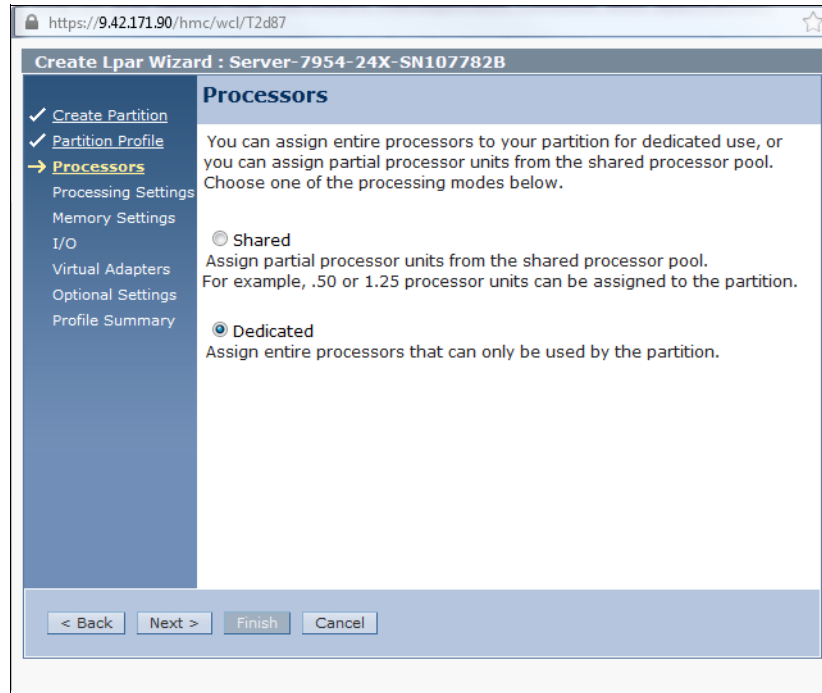

Figure 8-29 HMC Processors type selection window
1. Select **Dedicated** and then select **Next**, as shown in Figure 8-29 on page 378.